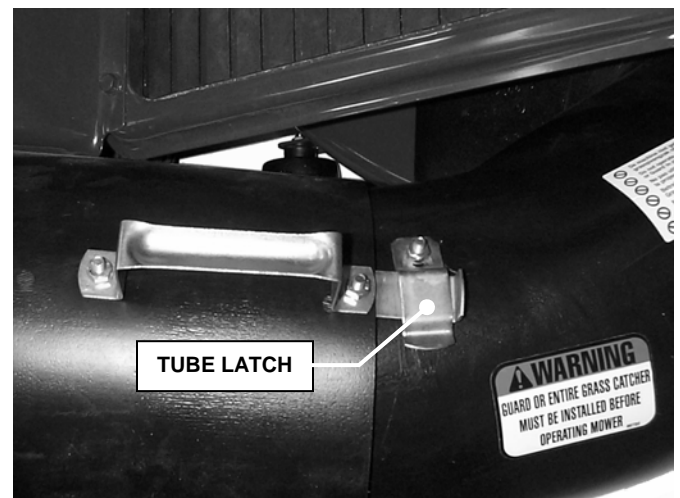

FIGURE 1.15
- D. Attach Tube Latch to Adapter. Insert one 1/4-20 x 3/4" Carriage bolt from inside through upper hole in Adapter. Place Tube Latch over bolt, followed by 1/4" Internal Tooth lock washer and secure with 1/4-20 hex nut. Align Tube Latch as shown and tighten securely. See Figure 1.15.